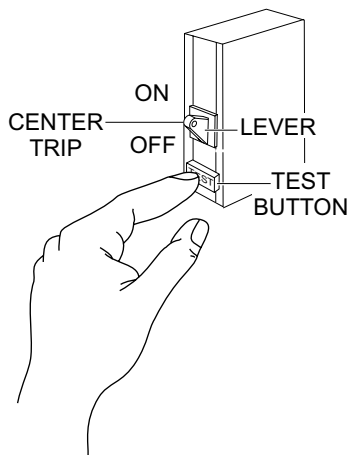

Figure 39. GFCI Breaker (Test)
4. Press the **test button** (Figure 39) on the AC circuit breaker and verify that the circuit breaker lever moves (*click*) from the **ON** position to the **center** trip position. This indicates that that the GFCI breaker is working correctly and ground faults will be detected.